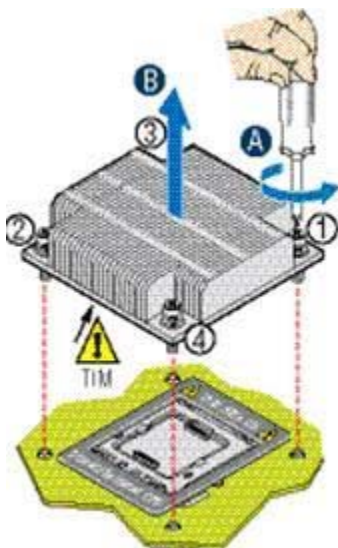

Figure 19. Removing the Heatsink
1. Loosen the four captive screws on the heatsink corners in a diagonal manner according to the numbers shown in Figure 19 as follows: